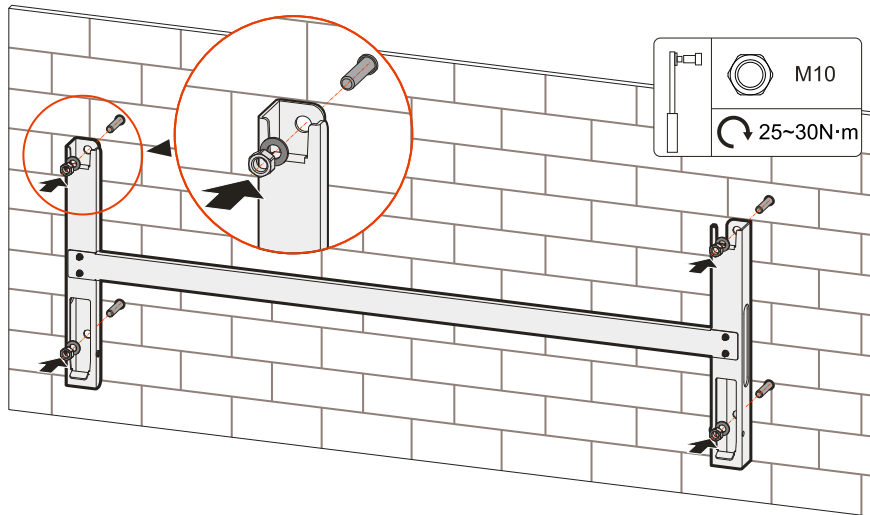

Figure3-23 Fix the wall mount on the wall
Step 5 Install the wall mount. Fix the wall mount to the expansion bolts, cover with flat washers, spring washers and nuts, and then tighten the nuts clockwise with a wrench to fix the wall mount to the wall, as shown in Figure3-23.